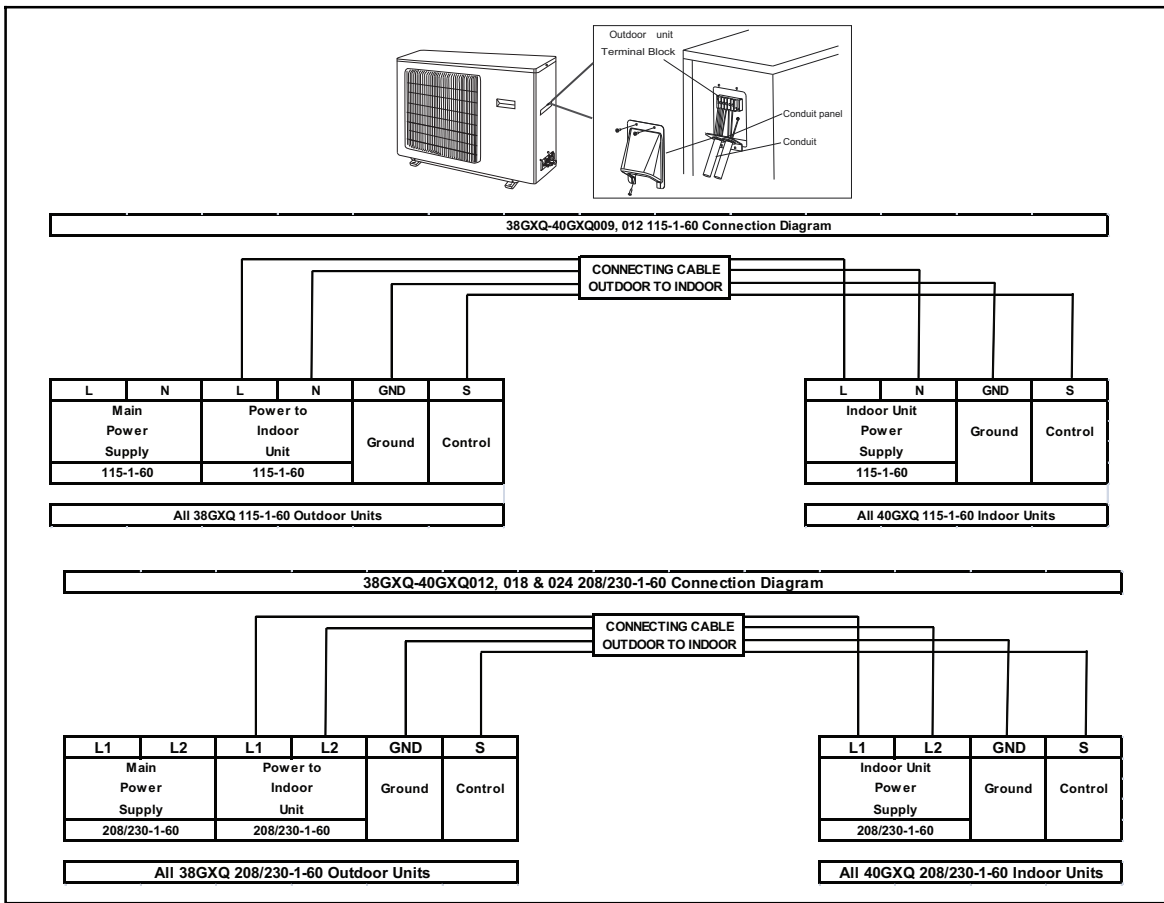

Fig. 12 – Field Wiring
4. Connect conduit to the conduit panel on sizes 9k, 12k, and 18k. (See Fig. 12)
8. Connect wiring from outdoor unit per connection diagram (see Fig. 12).